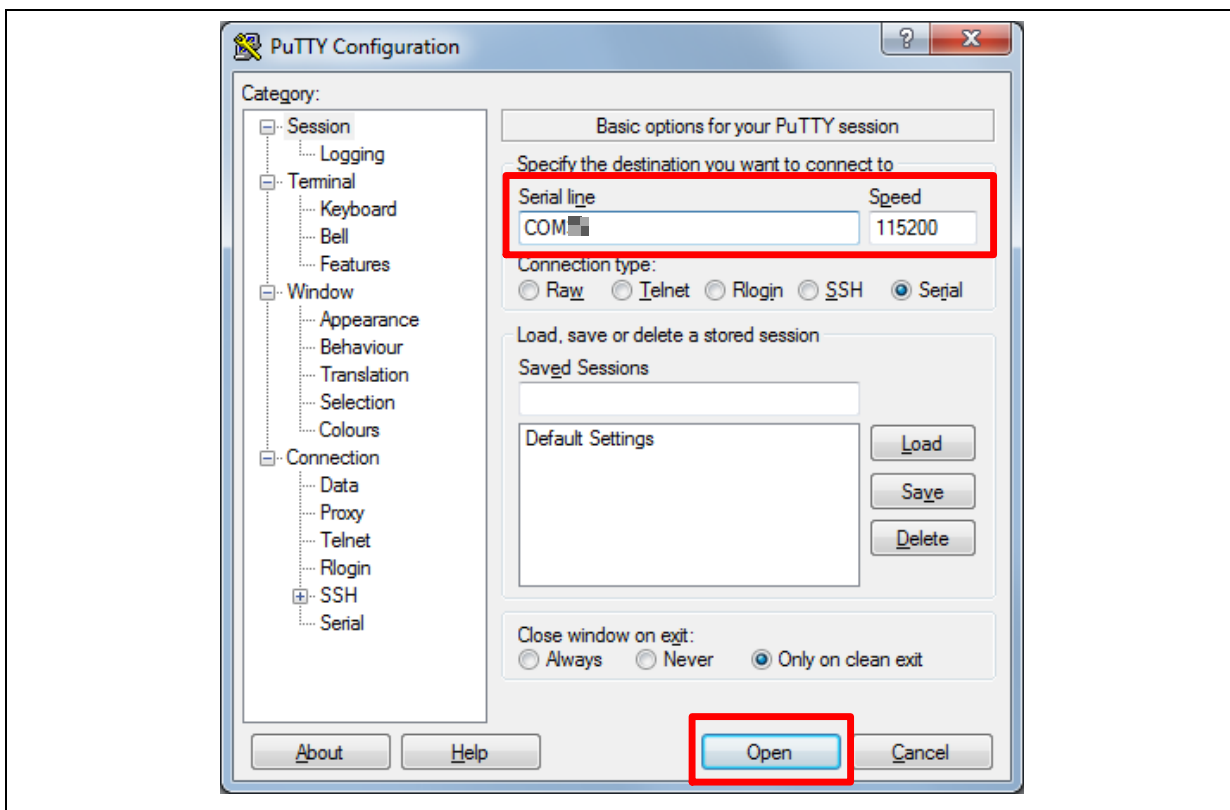

Figure 3.4-4 PuTTY Session Setting
4. Open a serial port terminal, PuTTY for example, to print out debug message. Set the speed to 115200. Figure 3.4-4 presents the PuTTY session setting.